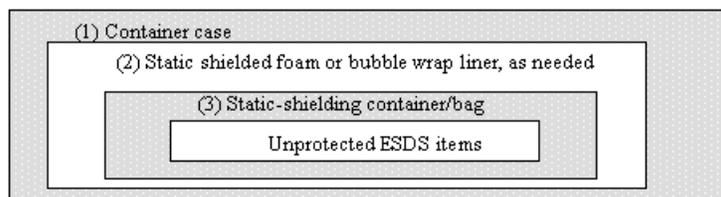

Figure 2-1. Minimum Required ESDS Hardware Container System
2.3 Pack the ESDS hardware as shown in Figure 2-1. This Figure illustrates the minimum required container system for enclosing ESDS items for movement out of the ESD protected area. Place the ESDS item in the approved packaging material and seal the packaging material.